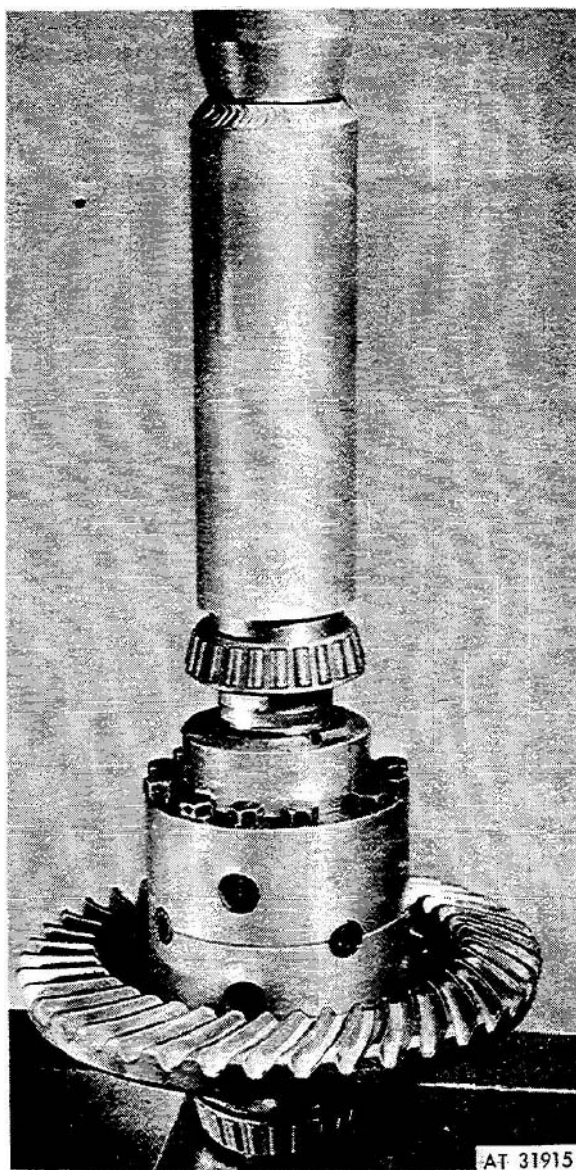

Figure 3-119. Pressing bearing onto *equalizer* assembly.
(28) Press bearings (11 and 21, fig 3-88) onto *equalizer* assembly (fig 3-119).